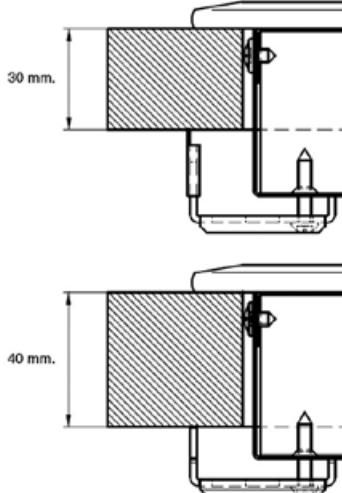

Fig. 8
6. For that installation scheme of the appliance into the board, refer to Fig. 8.